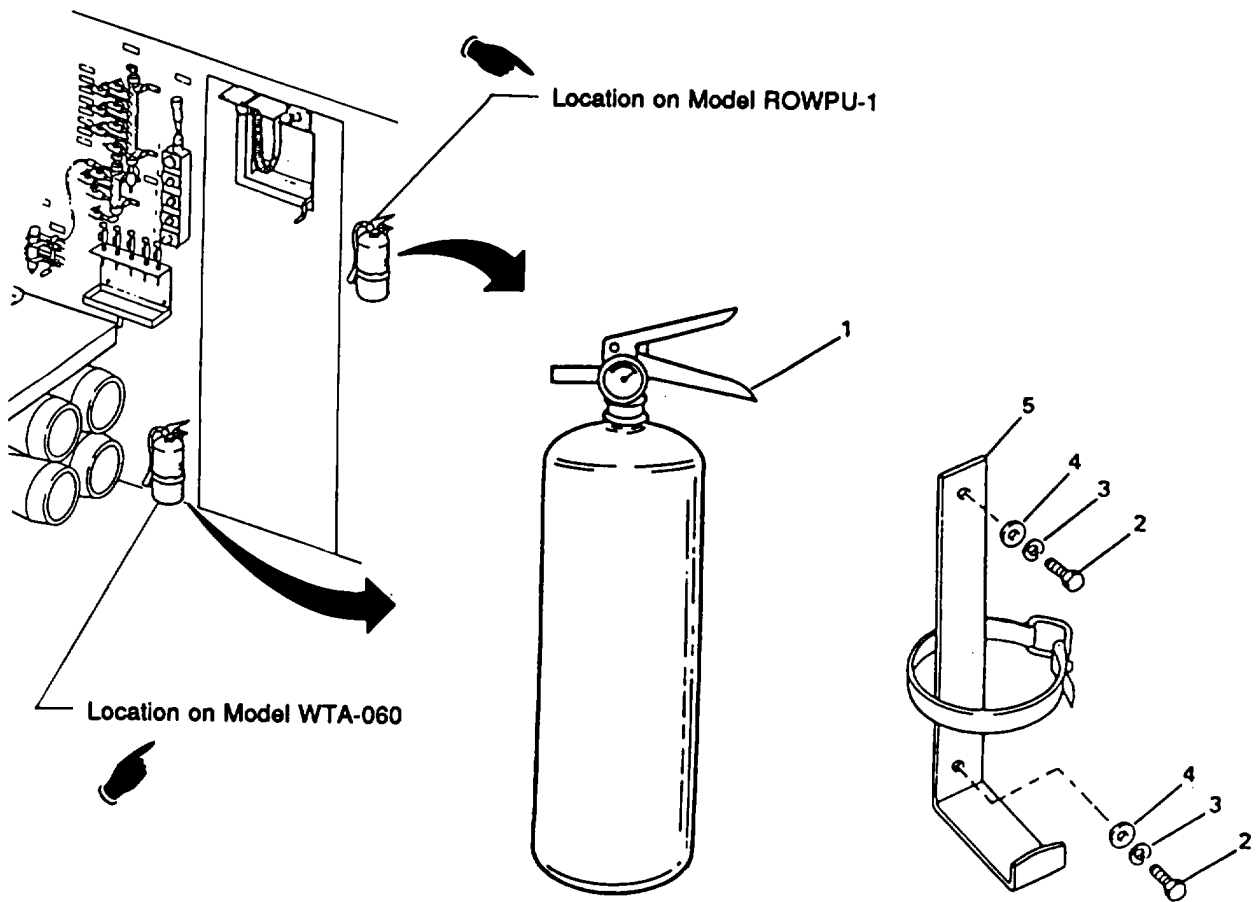

Figure 4-25. Fire Extinguisher and Bracket
- a. Remove fire extinguisher (1, Figure 4-25).
- b. Remove two screws (2), lockwashers (3), flat washers (4) and bracket (5).
- a. Install bracket (5) and two screws (2), lockwashers (3) and flat washers (4).
- b. Mount fire extinguisher (1) in bracket.